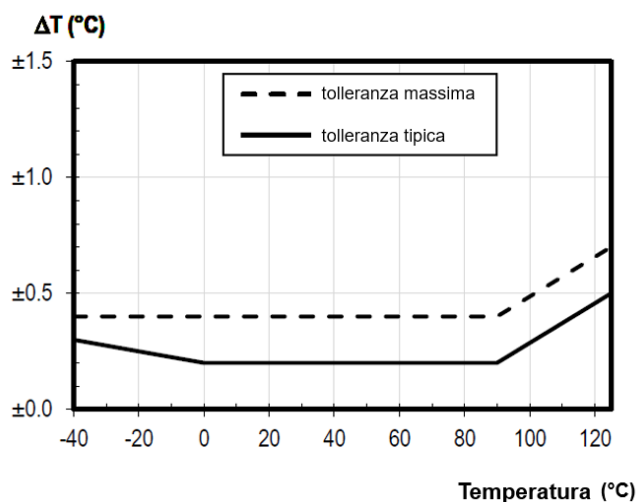

Figure 10: Sensirion STS31 temperature accuracy
- Typical accuracy:  $\pm 0.2^{\circ}\text{C}$  from  $0^{\circ}\text{C}$  to  $90^{\circ}\text{C}$  (refer to Figure 10)